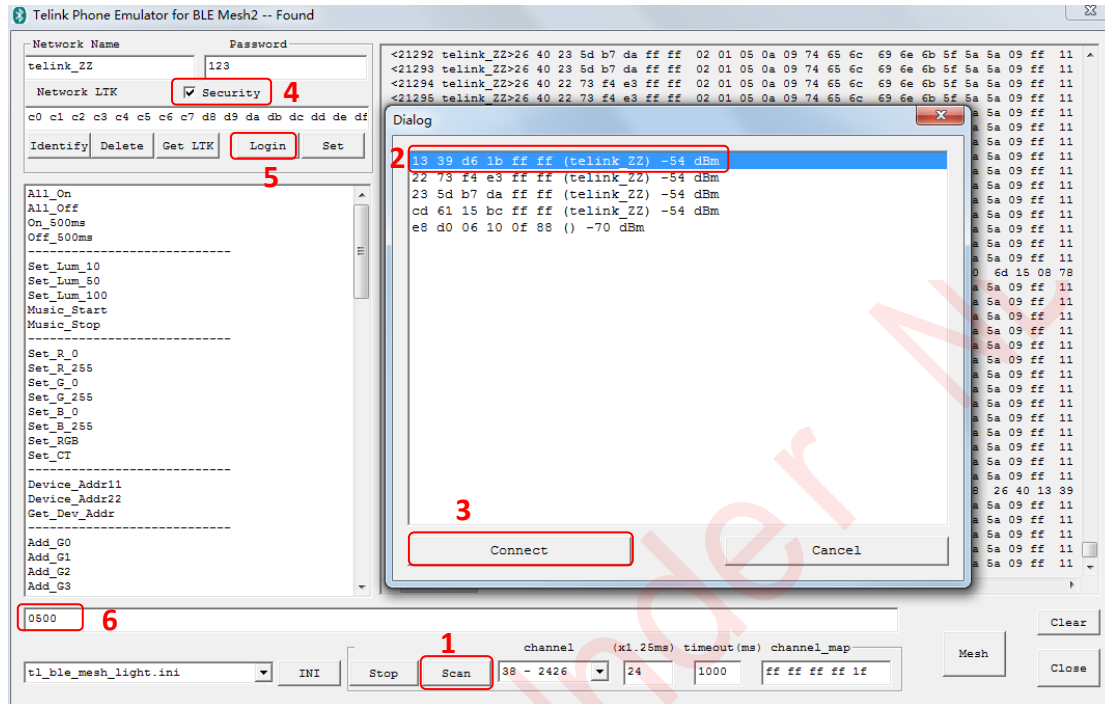

Figure 39 OTA update flow
- ✧ Open tl_ble_phone.exe, and follow steps 1~6 in Figure 39.